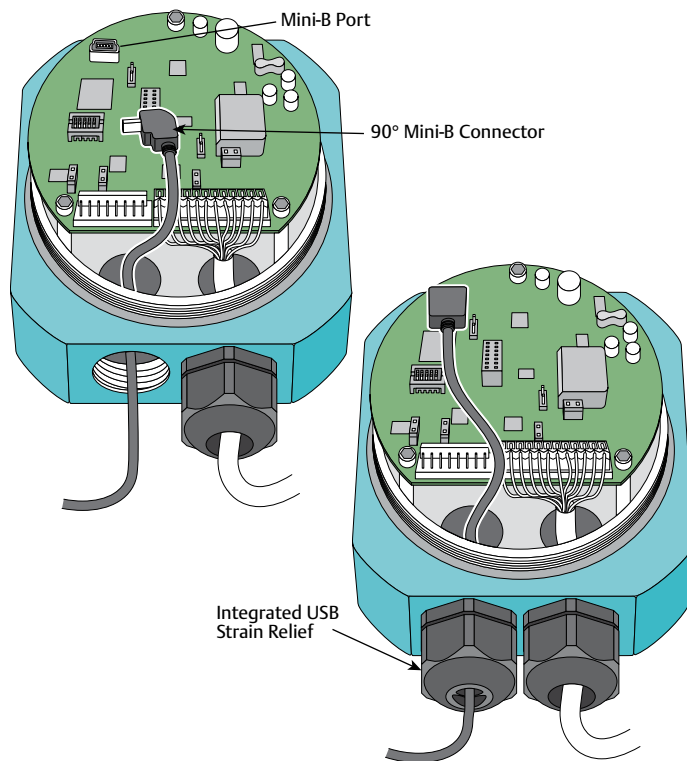

Figure 13: Connect the USB Cable
1. Slide the Mini-B connector into the left conduit port in the base of the ER5000 as shown in Figure 13.